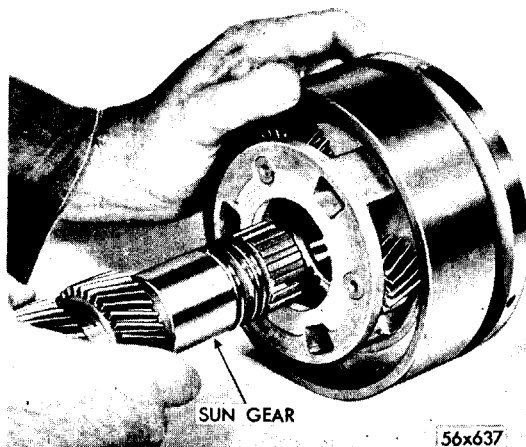

Fig. 66—Removal and Installation of Sun Gear (Reverse Planet Pinion Carrier and Overrunning Clutch Assembly)
(3) Remove the two rear clutch seal rings (neo prene) from sun gear and remove the reverse sun gear from overrunning clutch and reverse planet pinion carrier assemblies, Figure 66.